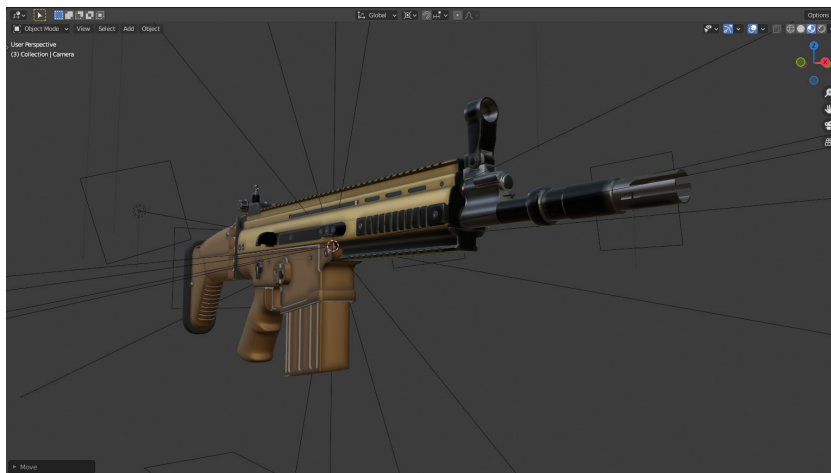

Figure 4.59 – Aligning the view
1. Place the 3D view at an angle from which you want to render the scene. In this scene, the lighting is set up best for an angle similar to that of *Figure 4.59*: